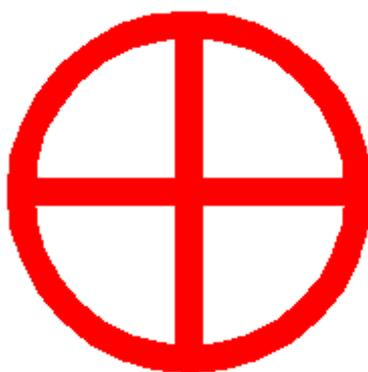

Fig 1 DZD Graticule Pattern 88
4. The optic is fitted with a special graticule with a ring and cross hair. These can be used to assist in the zeroing and alignment check (see Para's 9-14). See figure 1 for Graticule layout.
13. Observe the DZD graticule Fig 1 through the ring sight with the eye central to the rear aperture and adjust the ring sight zeroing until the bore sight mark on the ring sight graticule (the small horizontal line above the central horizontal line) is in the circle, preferably near the centre. As the graticule is focussed at infinity, to get the alignment in the circle will be greater accuracy than the diameter of the ammunition.